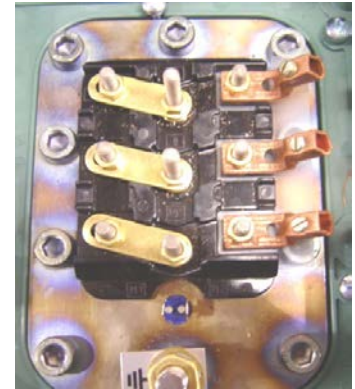

Figure 3.13a
- 13a. The terminal arrangement in Figure 3.13a shows the terminal configuration for 460/3/60 voltage. Install the jumper bars and wire lugs that come with compressor to create the voltage configuration needed (13mm nutdriver).